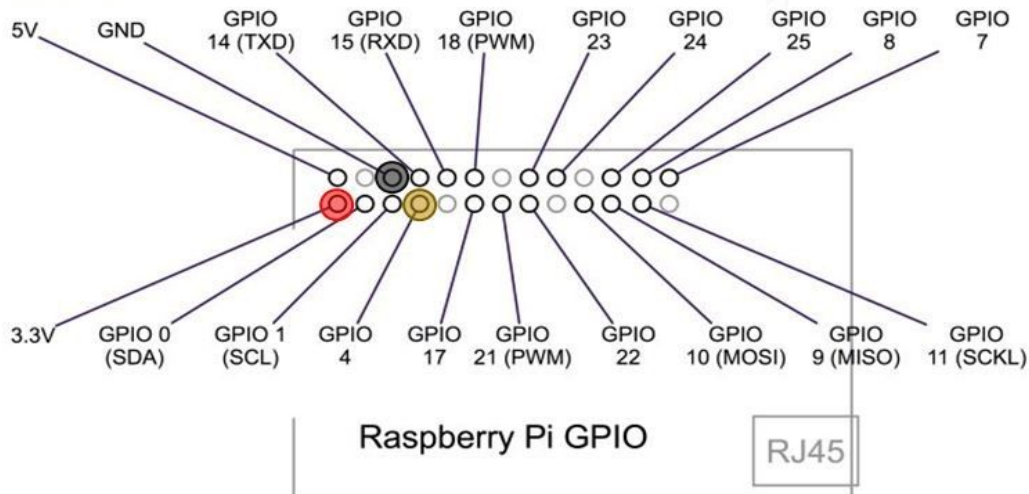

Figure 2: Raspberry Pi GPIO pins for connecting DHT11 sensor.
3. Connect the DHT11 sensor to highlighted GPIO pins of Raspberry Pi as shown in Figure 2.